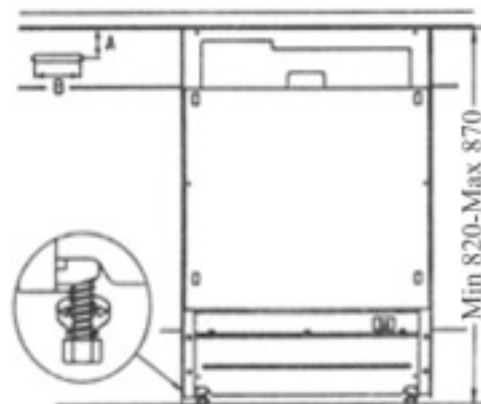

Fig. 11
4. Level the appliance by adjusting the height of the four feet as necessary (see Fig 11). Failure to level the appliance will result in unstable operation.